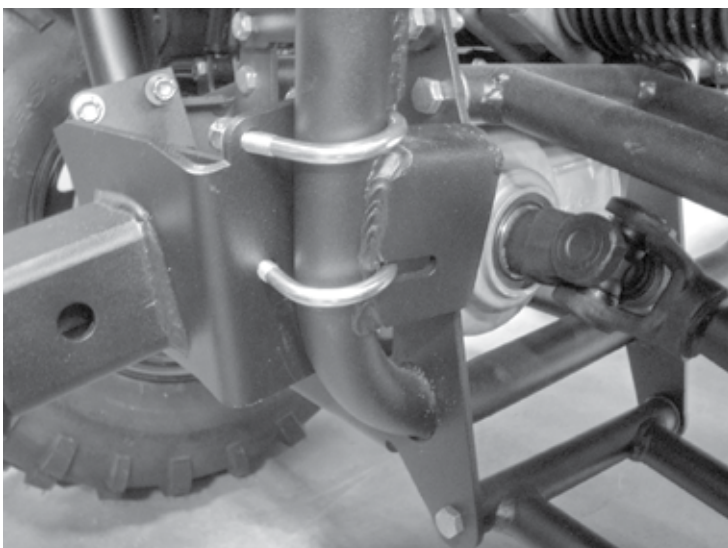

Fig. 2 Front receiver placement
- 2** Check the fit of the hitch between the two vertical front frame rails. Place the hitch between the two vertical front frame rails aligning the lower holes of the hitch with the slot in the front suspension bracket. The top set of holes should be just above the front suspension bracket. Insert U-bolts around the vertical frame rails and through the holes in the bracket. See figure 2 and NOTE below.